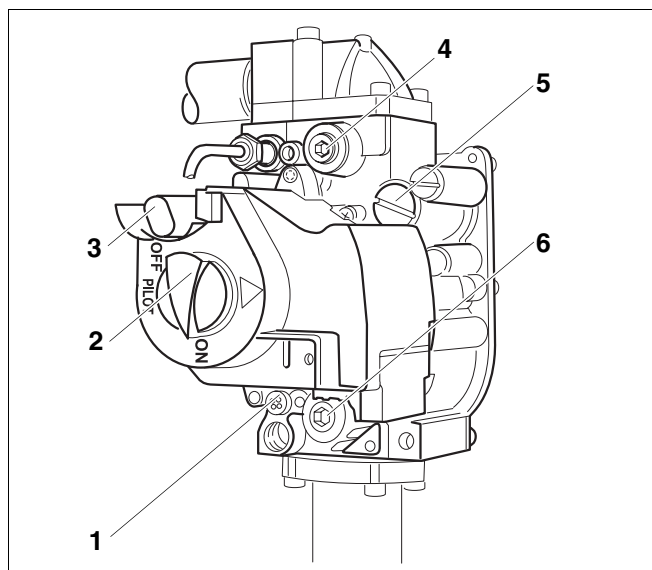

Fig. 14 G124X SP gas valve
41. Check pilot gas line for leaks with soap solution. If no leaks are found, continue with step 43. If leaks have been found, switch ON/OFF switch on gas valve (→ Fig. 14, page 14) clockwise to the OFF position.
The adjustment screw is behind the pilot burner pressure adjustment safety screw (→ Fig. 14, page 14).